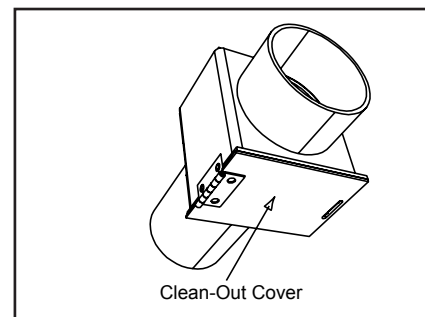

Figure 18.3 - Rear Vent Adapter
7. To clean top vent adapter, open clean-out cover and remove any debris build-up. **Figure 18.3 & 18.4**